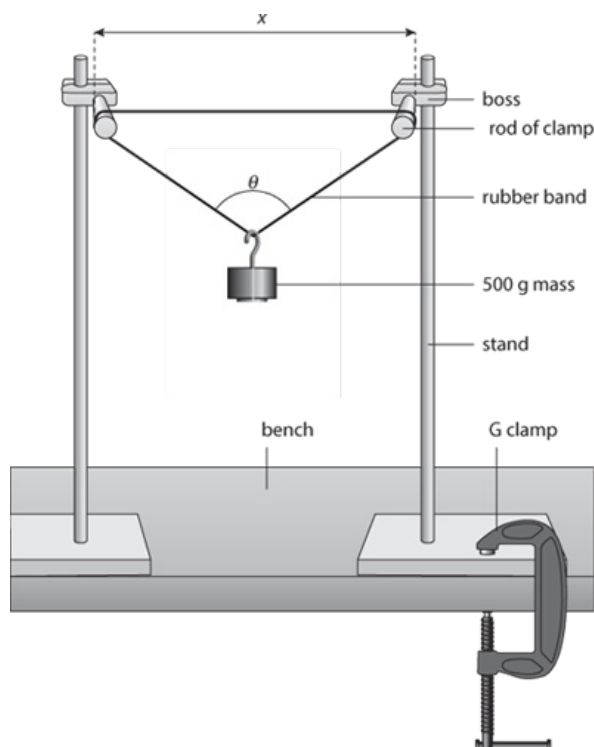

Figure 2.2: Rubber band, with weight, suspended from two rods.
- 1 Set up the apparatus as shown in Figure 2.2. The distance x between the rods of the clamps should be approximately 10 cm.